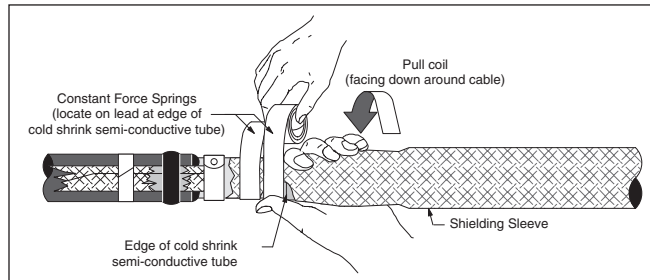

Figure 18
- 7.1 Center shielding sleeve over splice, stretching the sleeve to conform to surface of splice and cables (Figure 18).
- 7.2 Secure sleeve to PILC lead sheath by installing two constant force springs for 1 wrap only, around the sleeve and lead, just beyond edge of cold shrink semi-conductive tube (Figure 18).